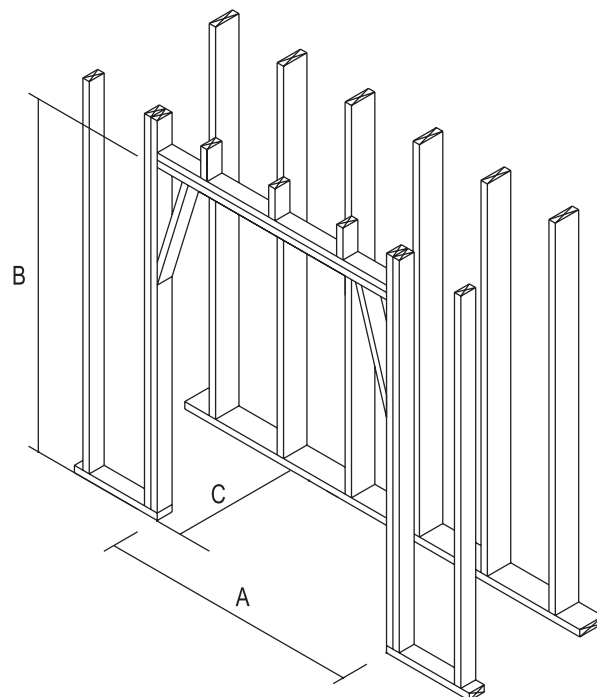

FIGURE 12
4. Rough framing dimension for depth "C" allows for the required 1½" clearance at the back of the Fireplace. 26 $\frac{3}{4}$ " is only for an interior wall as most exterior wall framing have insulation, even if the wall is 2x6, the foam they spray expands so typically 31" is allowed on an exterior wall (**Figure 12**)
The following chart of dimensions detail the positioning of an STANDARD Series fireplace in a corner. It also details the positioning of DM chimney where it must turn 45° degrees, if alignment is needed to overhead framing. (**Figure 12 & 13**)